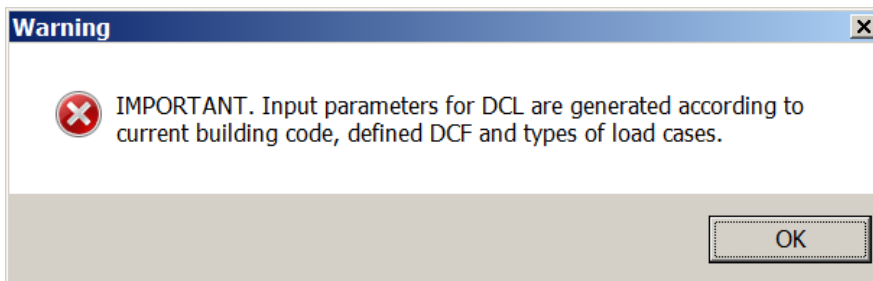

Figure 19.21 Warning box
- ⇒ In the **Warning** box (see Fig.19.21), click **OK**.